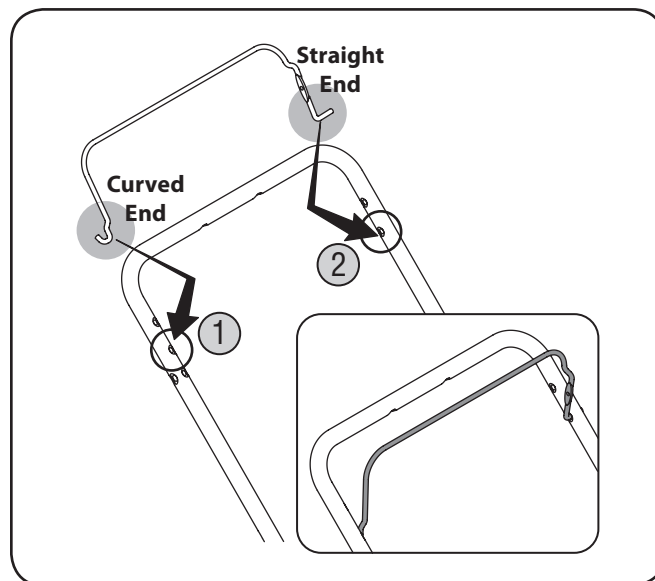

Figure 3-11
1. Place the upper handle in position over the lower handle keeping the blade control (if attached) facing up as shown in Figure 3-11 inset.
1. Insert the curved end of the blade control into the center hole located on the right side of the upper handle. See Figure 3-11.
2. Gently squeeze the blade control inward and insert the straight end into the lower hole located on the left side of the upper handle. See Figure 3-11.